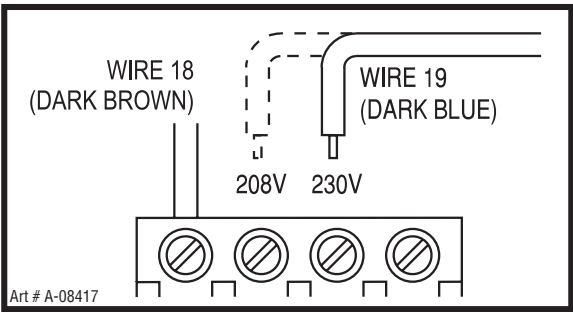

Figure 3-1: Voltage selections for Fabricator 190
- 2. Refer to Figure 3-1. The power supply comes wired for 230V. Locate the black input power wire secured to the input voltage selection block. Loosen the set screw for both voltage locations.